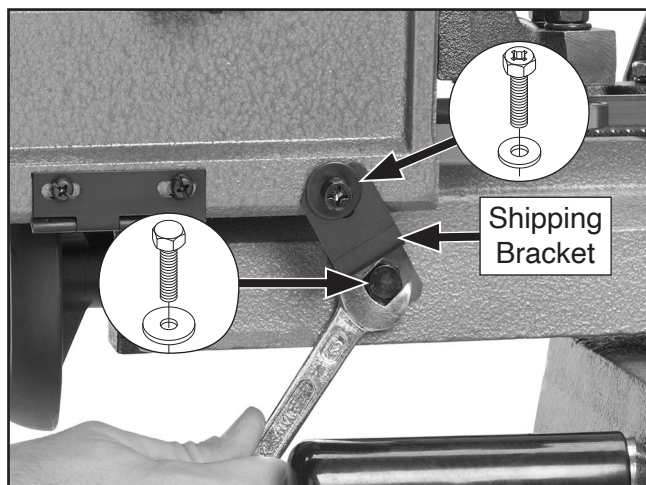

Figure 22. Example of shipping bracket in place.
1. Remove fasteners securing shipping bracket, then store shipping bracket for future use (see **Figure 22**).